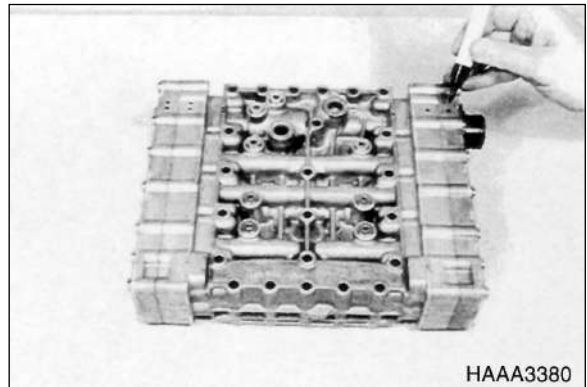

Figure 5
- Clean area around fuel tank fill cap (1, Figure 5). Open fuel cap.